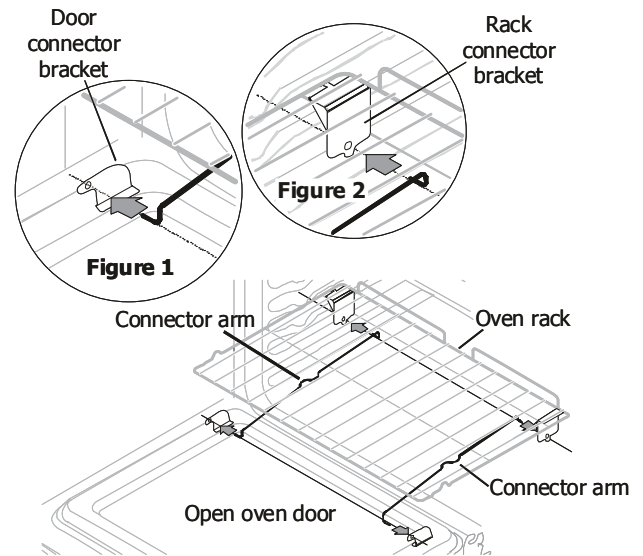

Figure 3 - Assembly of the Effortless™ oven rack
4. Assemble one connector arm at a time. With the oven door open and the oven rack in place, install one end of the connector arm to the hole in the door connector bracket (Figure 1) and the other end in the hole in the rack connector bracket (Figure 2 and as in Figure 3). The oven rack may need to be adjusted in or out in the rack position to match the length of the connector arm.